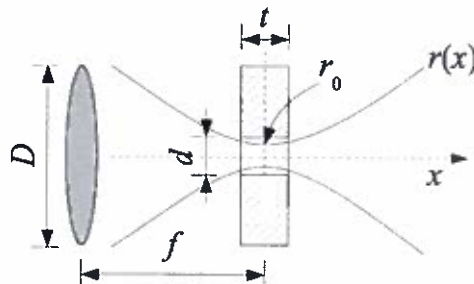

Fig. 7
- (b) Figure 7 shows a lens, with diameter D and focal length f , which focusses a light beam through an aperture of diameter d in a plate of thickness t . The aperture is located at the focal point of the lens, and the radial extent $r(x)$ of the light is given by: